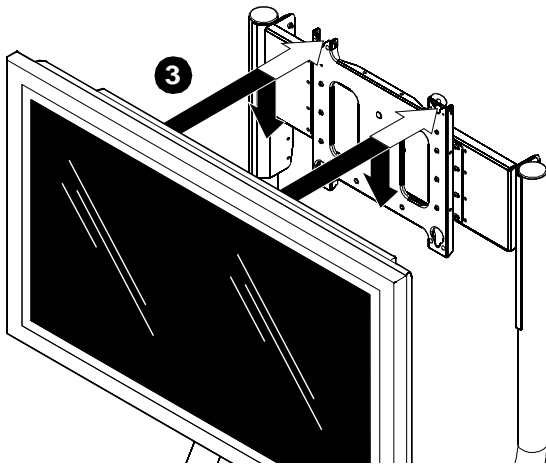

Figure 7
5. Using four 1/4-20X5/8" buttonhead cap screws, two per side, secure the mounting head (40) to the top of the legs of the cart (see Figure 7).
3. While supporting both sides of display, align four mounting buttons on display or interface bracket with four mounting holes in head assembly. (See Figures 7 and 8)
4. Lower display into place listening for audible "click" to ensure recessed area of mounting buttons are properly seated in lower area of mounting holes. (See Figures 7 and 8)